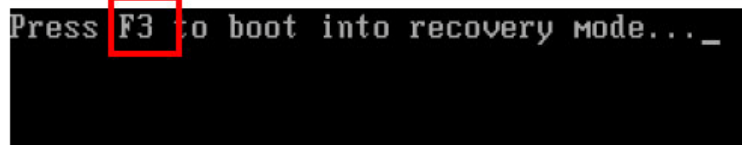

Figure A-10: Press F3 to Boot into Recovery Mode
Step 1: Turn on the system. When the following screen displays (**Figure A-10**), press the <**F3**> key to access the recovery tool. The message will display for 10 seconds, please press F3 before the system boots into the operating system.